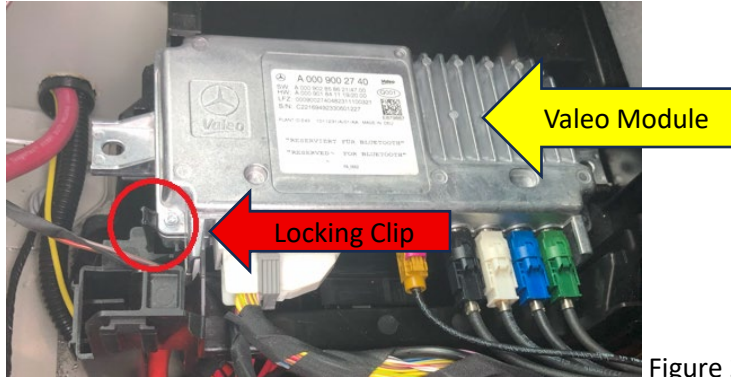

Figure 2
- Remove Mercedes Valeo Module shown in figure 2 by pulling up on the front edge while pressing the locking clip forward. Set the module aside to access the PSM below it.